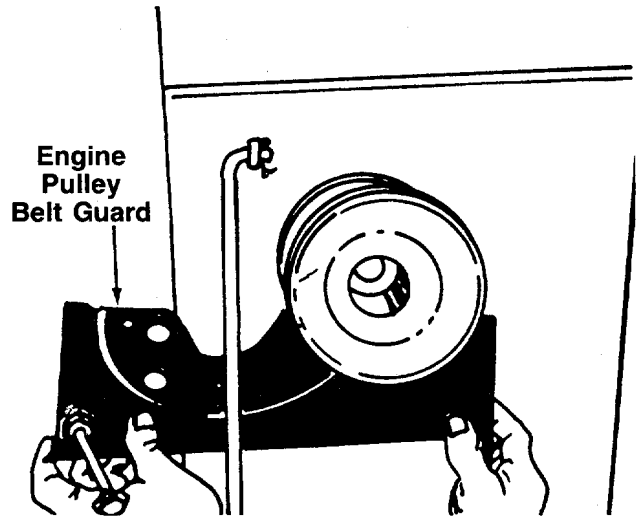

FIGURE 21.
- Remove the engine pulley belt guard by slipping it back and to the right. See figure 21.